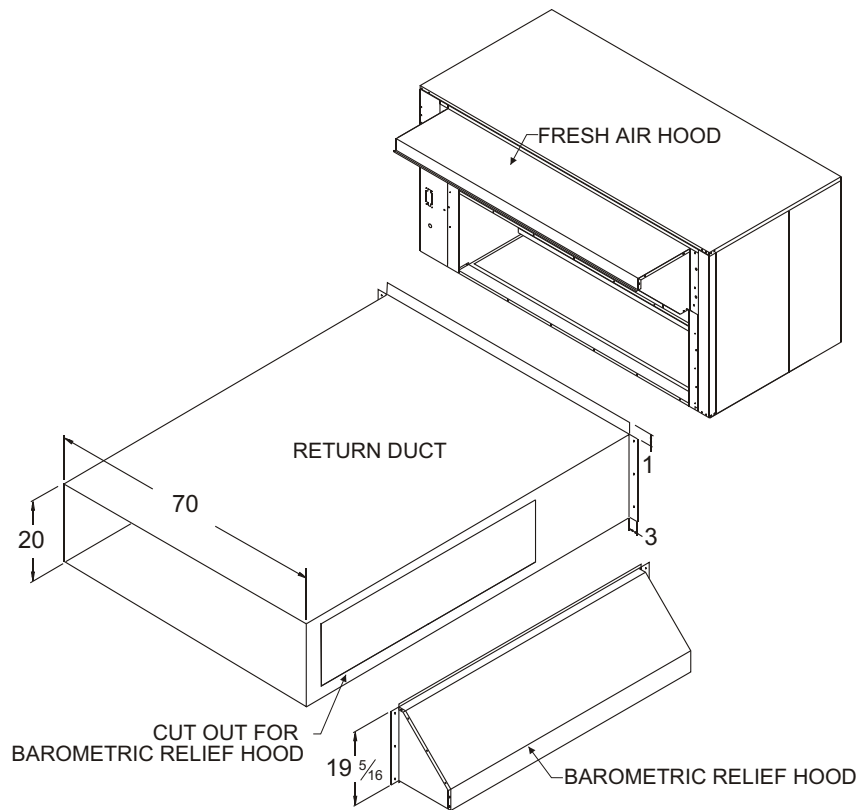

Figure 11
12. Install fresh air hood over fresh air opening of economizer and secure to unit using screws provided as shown in Figure 11.